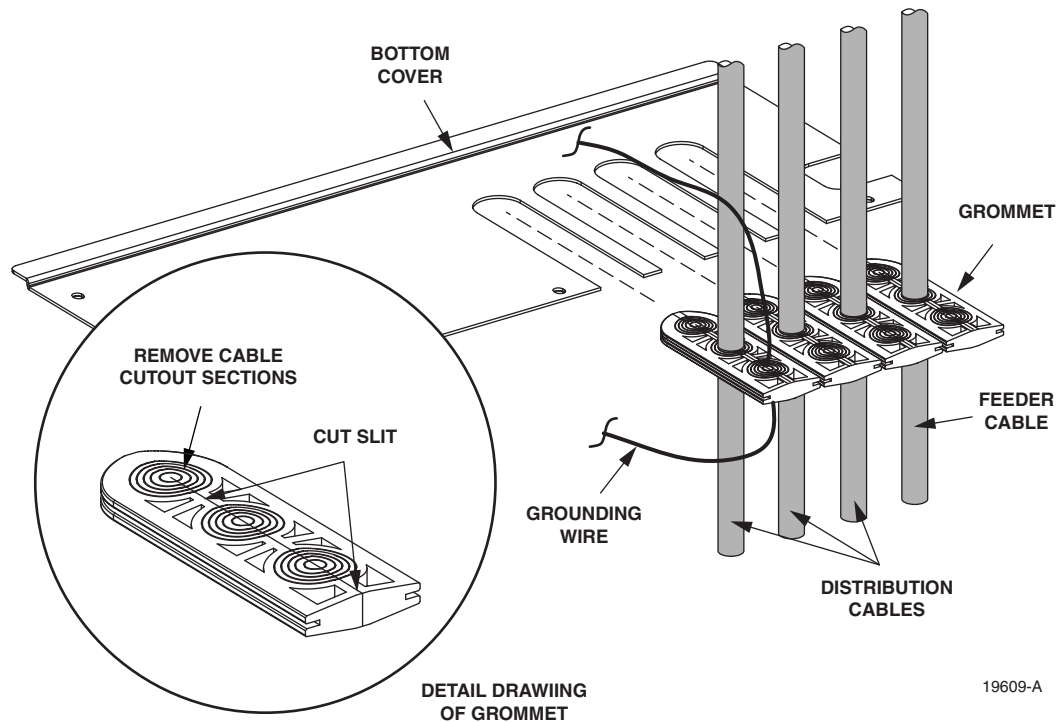

Figure 24. Bottom Cover Installation
3. Using a utility knife, cut through the slit that runs lengthwise down the center of each grommet as shown in Figure 24.